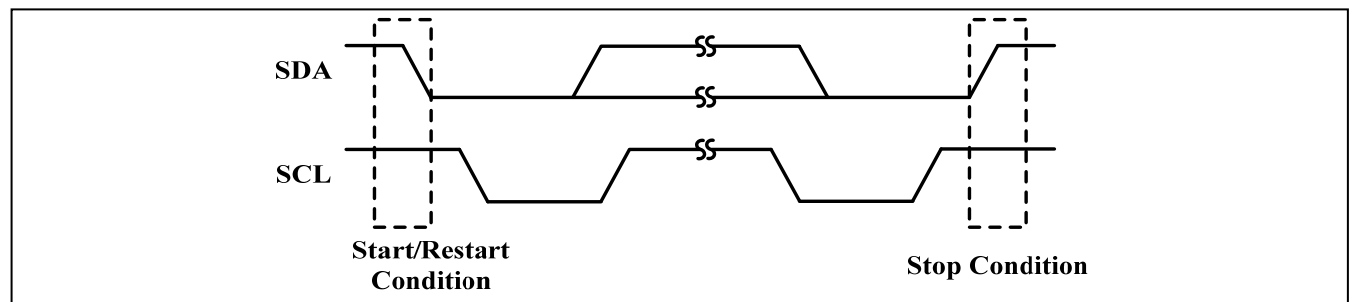

Figure 3 START and STOP Conditions
SDA operates as both an input and an open-drain output. A pull up resistor, typically 4.7k Ω , is required on SDA. SCL operates only as an input. A pull up resistor, typically 4.7k Ω , is required on SCL if there are multiple masters on the 2-wire interface, or if the master in a single-master system has an open-drain SCL output. Each transmission consists of a START condition sent by a master, followed by the IS31IO7328's 7-bit slave addresses plus R/W bits, 1 or more data bytes, and finally a STOP condition (see Figure 3).
When the master has finished communicating with the slave, the master issues a STOP (P) condition by transitioning SDA from low to high while SCL is high. The bus is then free for another transmission (see Figure 3).